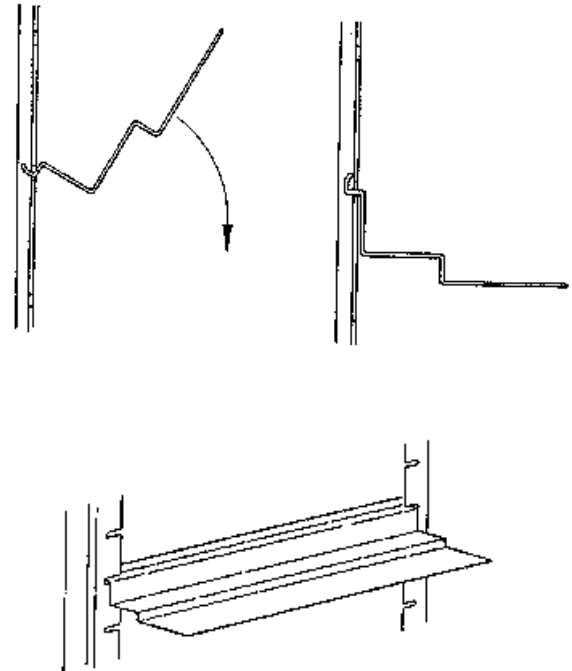

Figure 1
- Install screen rack angles onto angle supports by tilting the angles up and sliding the flange into the notches of the supports. See Figure 1.